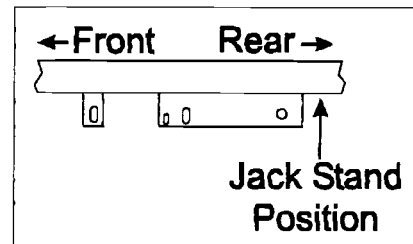

Fig. 2
6. Install a jack stand support of sufficient capacity under the frame and as close to the rear of the axle mounting plate as possible. (Fig. 2)